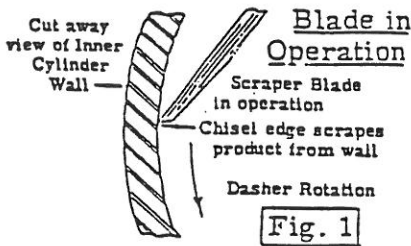

Fig. 1
- Blades are designed to give maximum service. Wear depends on operating conditions (fig 1).